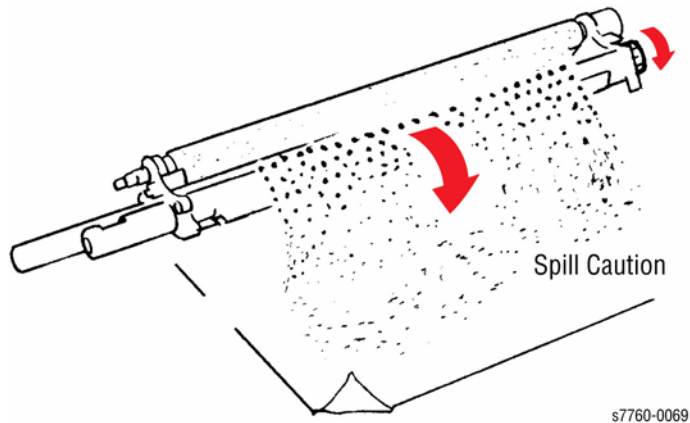

Figure 3 Removing Developer
- c. Rotate the Drive Gear to remove the Developer (Figure 3).